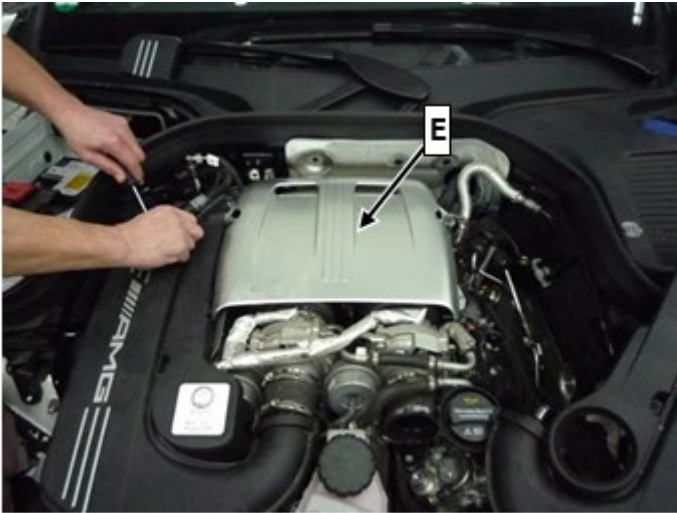

Figure 4
3. Remove heat shield (E, figure 4).